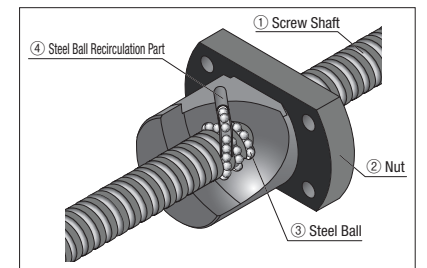

Figure 4 Ball Screw Circulation Structure (Tube Style)
- Nut:** If the orbital speed of the steel balls inside the nut becomes large, it is possible that the circulation components will be damaged by the impact force. (Figure 4)